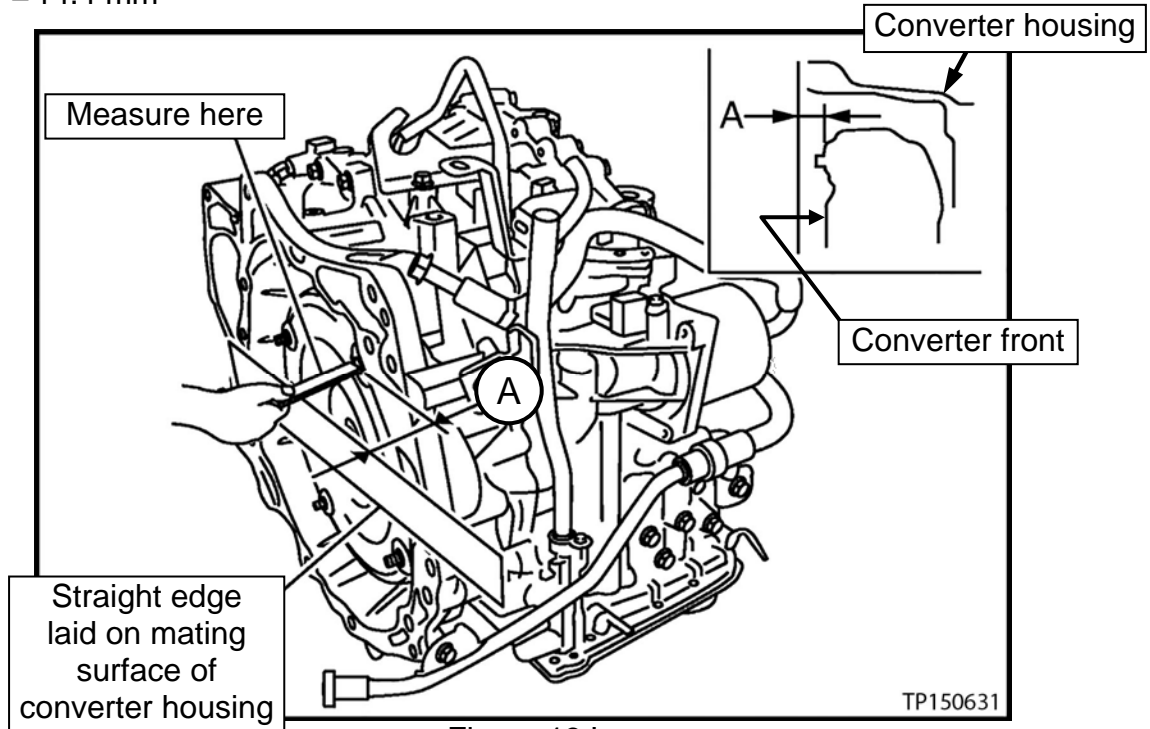

Figure 13J
- Verify the torque converter is installed at the proper depth (see Figure 13J).